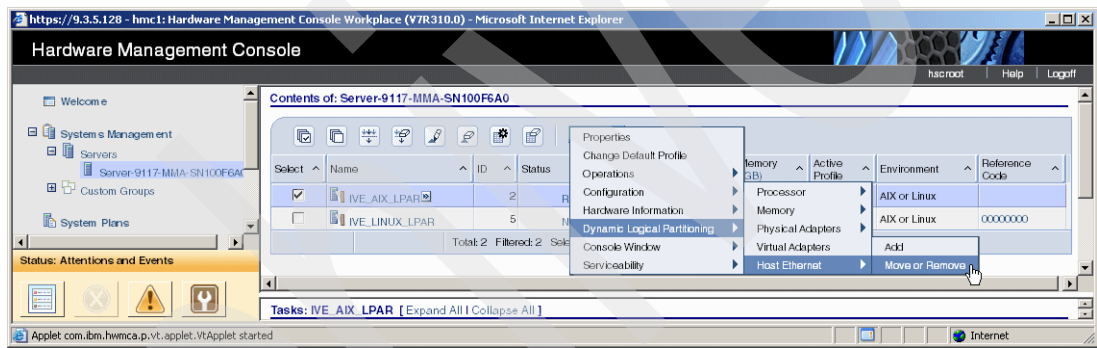

Figure 4-11 Second step to remove a logical port
3. In the server panel, check your LPAR check box and use the **Task** button, as shown in Figure 4-11.